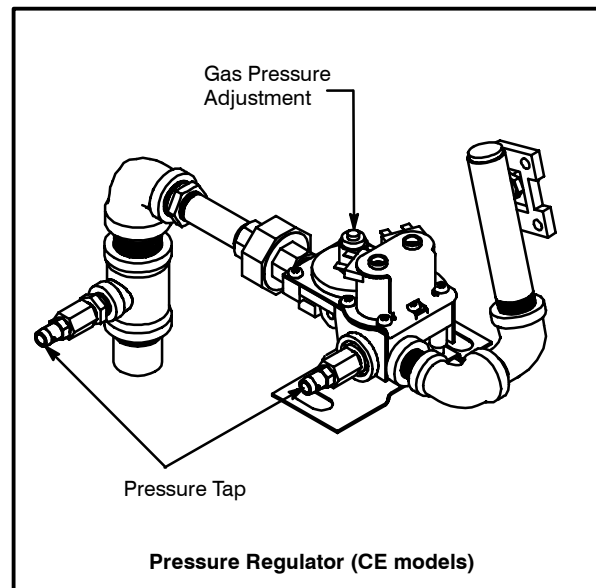

FIGURE 3
8. Adjust gas pressure if necessary, See FIGURE 3.